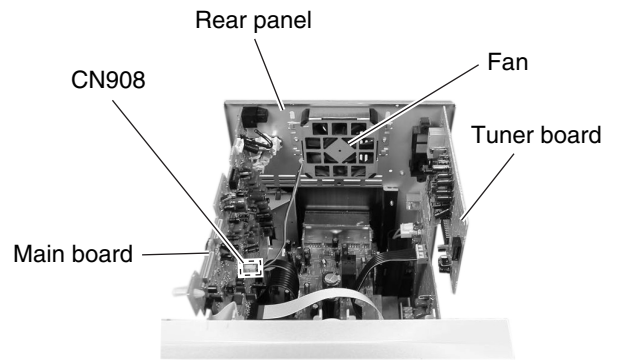

Fig. 27
■ **Removing the fan** (See Fig. 27 & 28)